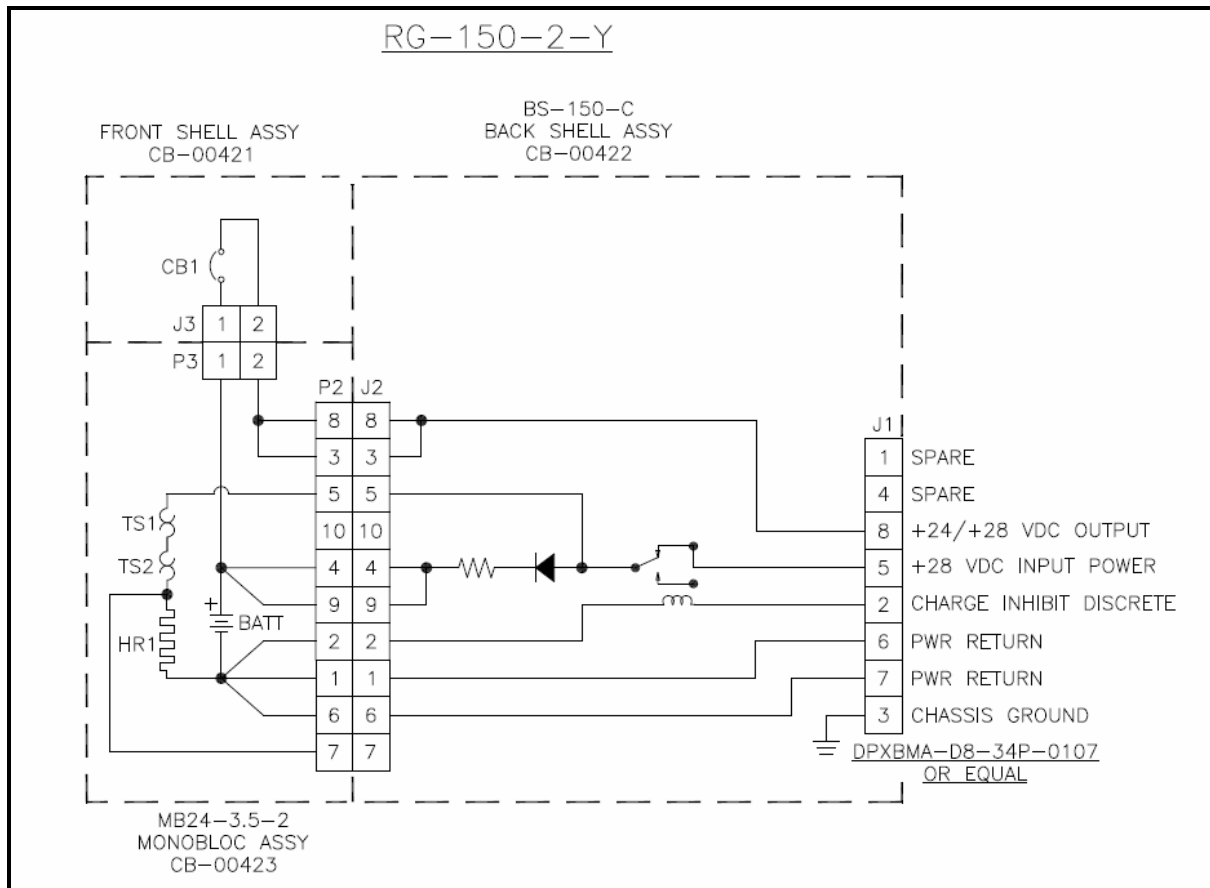

Figure 202. Schematic Diagram for RG-150-2-Y Battery
- B. The schematic diagram for the RG-150-2-Y battery is shown in Figure 202.